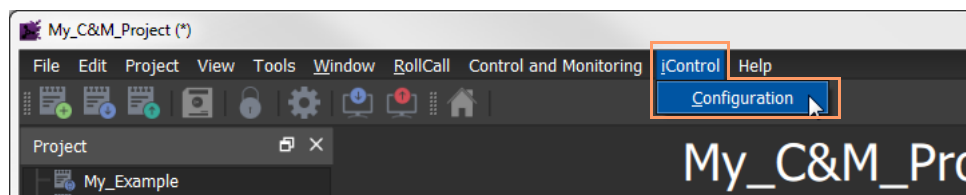

Fig. 2-9: iControl > Configuration
- Click **iControl > Configuration** in the main menu bar. (See Figure 2-9.)